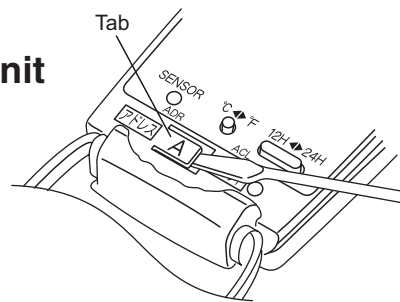

Fig. 1
- (1) Switch on the power source.
- (2) Break the address-setting tab marked "A" on the second remote controller to change the address (Fig. 1). When the tab is removed, the address is automatically set to B (Fig. 2).
- (3) Press and hold the remote controller HIGH POWER button and 1 HR TIMER button. At the same time, press the ACL (reset) button. Use a thin object such as the tip of a pen to press the ACL button. When this has been done, "oP-1" (test run) appears, blinking, in the remote controller clock display area.